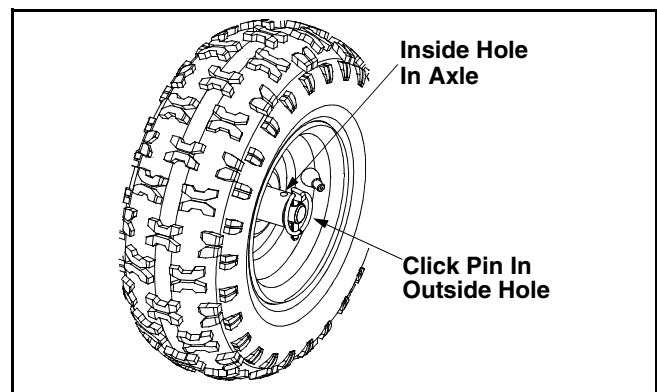

Figure 20
- The wheels may be adjusted for two different methods of operation. Follow the steps below for adjustment. See Figure 20.